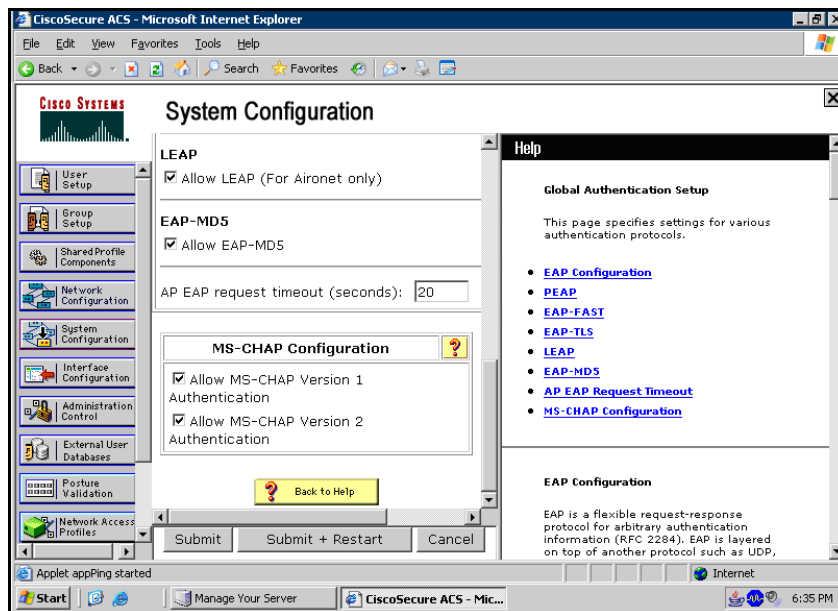

FIG. 68 EAP-LEAP sample Cisco System Security page
- Refer to FIG. 68 for an example of how a typical EAP-LEAP system configuration page should appear.